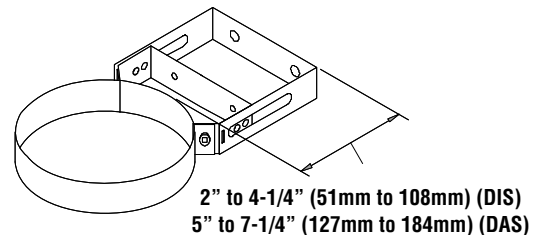

Figure 29 - Wall guide extension
3. The wall guide can be installed with a wall band extension for greater clearances up to 4-1/4" for model DIS and up to 7-1/4" for DAS. See **Figure 29** (wall guide extension).